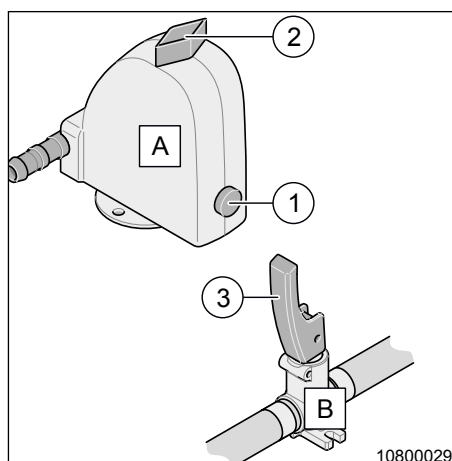

Fig. 61 Boiler drain tap
→ Move the tilting lever (Fig. 61, Pos. 3) of the drain taps (Fig. 61, Pos. B) either vertical or horizontal and no other position! Twisting the tilting lever could damage the seal in the drain tap leading to it leaking.
1. Move the blue twist lock (Fig. 61, Pos. 2) on the drain tap (Fig. 61, Pos. A) crosswise.
2. Press the knob (Fig. 61, Pos. 1) and lock at the same time (Fig. 61, Pos. 2).
3. Close drain tap (Fig. 61, Pos. B). Move the tilting lever (Fig. 61, Pos. 3) to the horizontal position to do this.
6. Open the drain tap (Fig. 61, Pos. A). To do this, turn the twist lock (Fig. 61, Pos. 2) to the lengthwise position.
7. Open the drain tap (Fig. 61, Pos. B). To do this, move the tilting lever (Fig. 61, Pos. 3) to the vertical position.